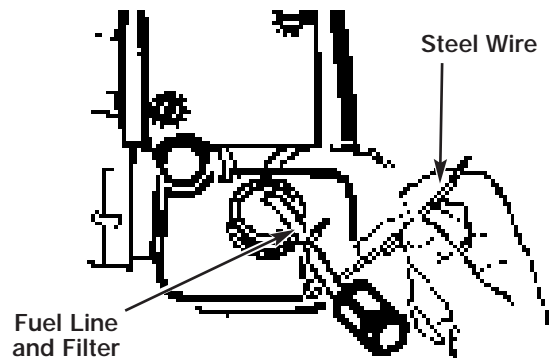

Fig. 22
1. Lift the fuel line and filter out of the tank. Use a steel wire with a hook or a paper clip (Fig. 22).